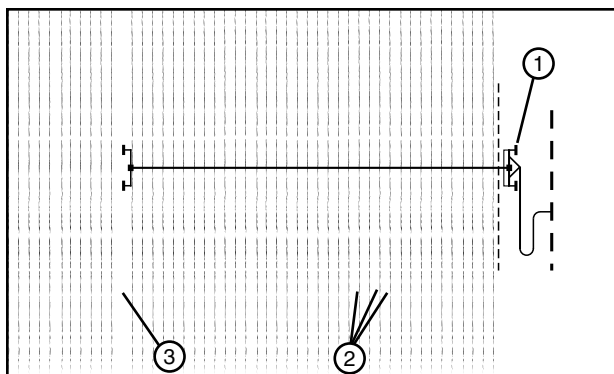

Figure 38-1 Parallel Travel
2. Plant the crop parallel to the wheel tracks allowing a minimum of 10 in (254 mm) of clearance space between each wheel track and the first crop row on either side of the wheel track. See Figures 38-1 and 38-2.
1. Plant the crop parallel to where the irrigation machine will run. See Figure 38-1.